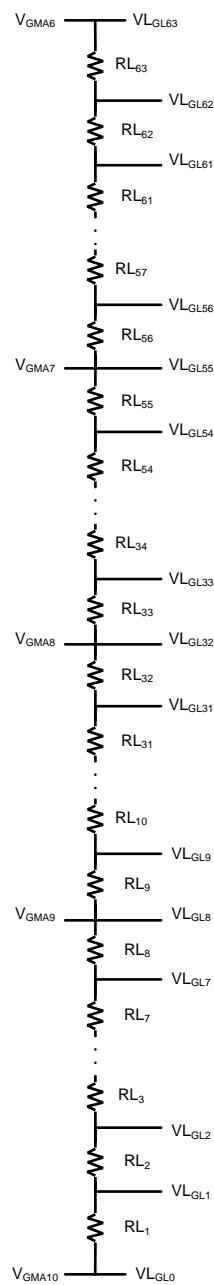

Figure 4. FPD33584A R-DAC Configuration
- Gamma A—Figure 4, Table 2, and Table 3